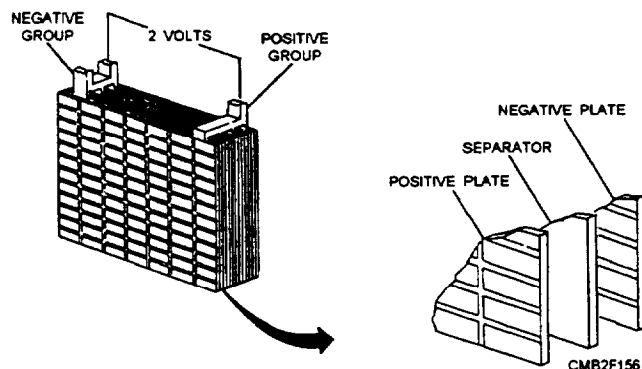

Figure 2-3.—Battery element.
**BATTERY ELEMENT.**—The battery element is made up of negative plates, positive plates, separators, and straps (fig. 2-3). The element fits into a cell compartment in the battery case. Most automotive batteries have six elements.